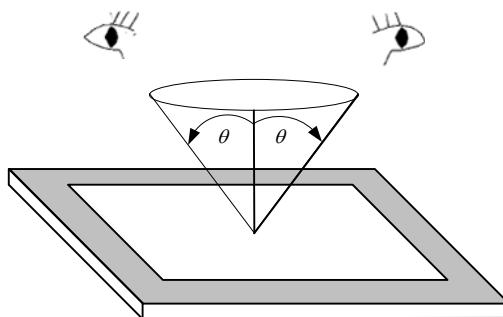

Fig. 12.1
- The viewing zone is defined with angle  $\theta$  shown in Fig. 12.1. The inspection should be performed within 45° when display is shut down. The inspection should be performed within 5° when display is power on.